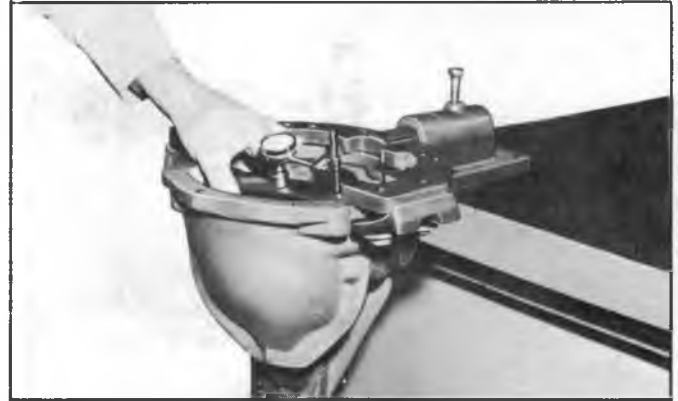

Fig. 16C--Gauging Pinion Depth
6. Mount Dial Indicator J-8001 on gauge post and place pointer on top of plunger as in Figure 16C. Swing gauge